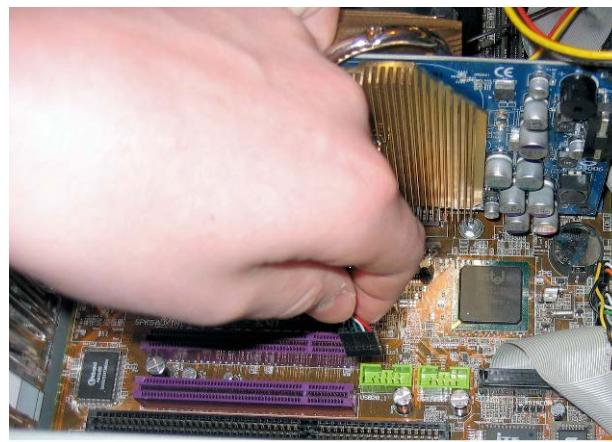

Figure 24 Plugging the wired end of the cable into the USB header port
- d. Plug the other end of the Y-adapter into the back of the driveBAY 2 (Figure 24).